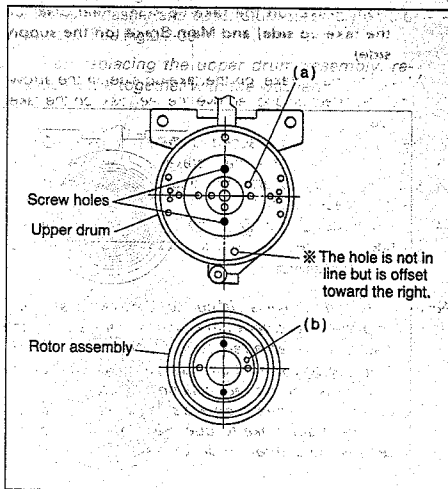

Fig. 2-2-38
- (3) Match the phases of the upper drum and the rotor assembly as indicated in Fig. 2-2-38.
- (4) Place the upper drum hole (a) over the rotor assembly holes (b) (with three holes to be aligned) and tighten the two screws (B). (See Fig. 2-2-38)